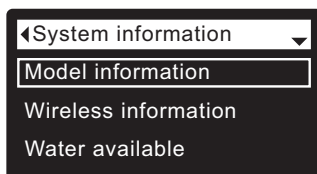

FIG. 65
3. Press the SELECT (O) button to display the System information menu (See Figure 65).
7. When finished viewing an information screen, press the SELECT (O) button. The display will go back to the System information menu (Figure 65). It will also exit automatically if no buttons are pressed for four minutes.